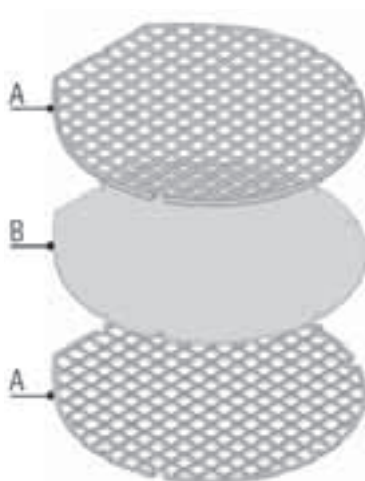

Fig. 6.b
**! WARNING:** never start the humidifier without the air filter fitted! The air filter is made up of three parts that must be assembled so that the filtering material B is enclosed between the two plastic grills A (see Fig. 6.b).